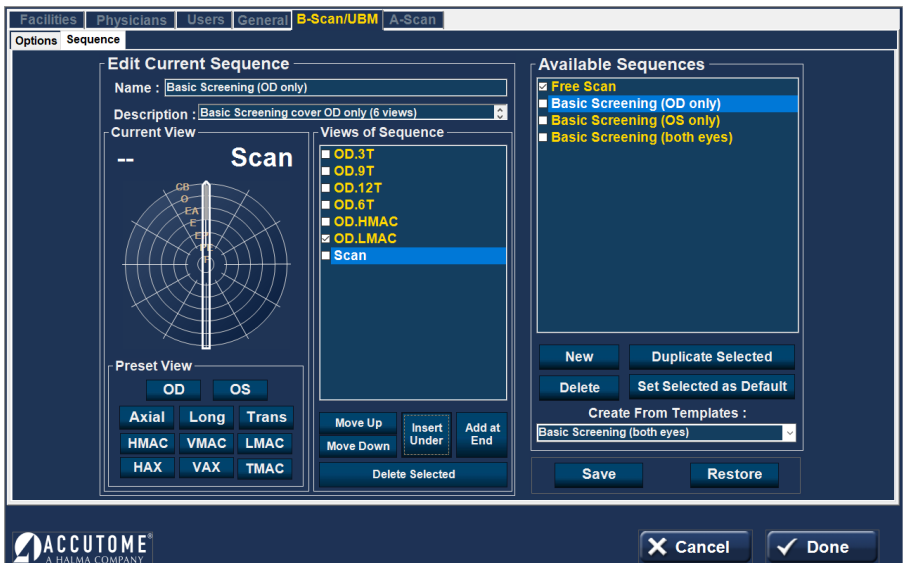

Figure 7.4 - Setup: B-Scan/UBM – Sequence – New Sequence Scan Added
- Select the first view, or scan, of the new sequence by either clicking in the checkbox (to the left of the view name) or by double-clicking on the scan title (e.g., OD.Scan) in the "Views of Sequence" box as shown in figure 7.4.
2. The newly added sequence scan will display as Scan as shown in Figure 7.4.